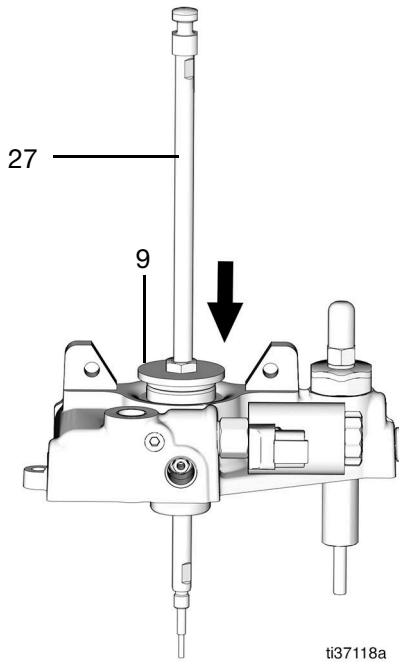

FIG. 54
7. Apply a light coating of grease to the pump rod (27) and push it into the pump housing through the hole in the retaining nut (9) (FIG. 54).